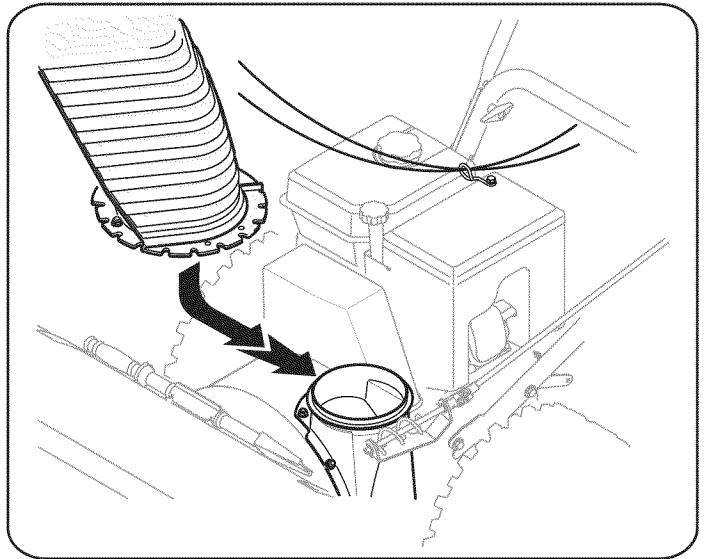

Figure 6
2. Place chute assembly onto chute base as shown in Figure 6. Make sure that the chute notches engage with the spiral end of chute directional control, and the two flange keepers are beneath the flange on the chute base.
4. If not already done, slip the cables that run from the handle panel to the discharge chute into the cable guide on top of the engine. See Figure 6.